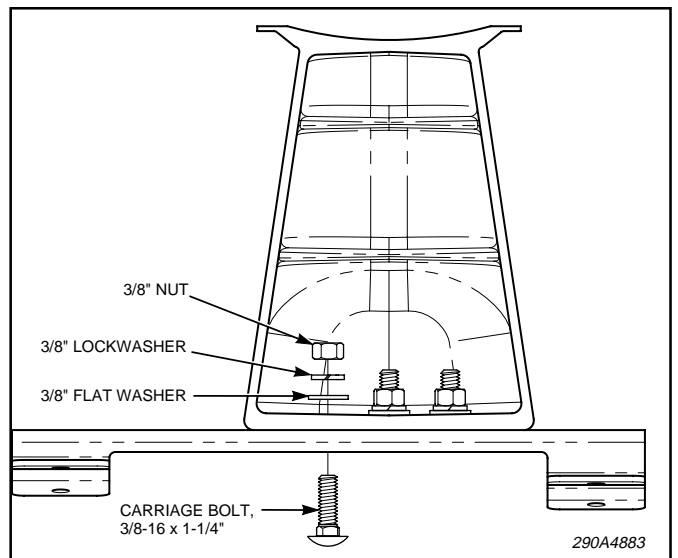

Figure 4.
7. See figures 4 and 5. The brackets have an array of holes that match the cast mounting feet. The casting can be bolted to the bracket at several distances from the front of the vehicle. Determine the final, desired location of the lightbar, and the set of mounting holes that will accomplish this. Bolt a mounting foot to each bracket using 3, 3/8" carriage bolts, nuts, washers and lock washers. The screw heads must be on the bottom as shown in figure 4, to clear the roof. Torque to 150 - 175 in-lb.